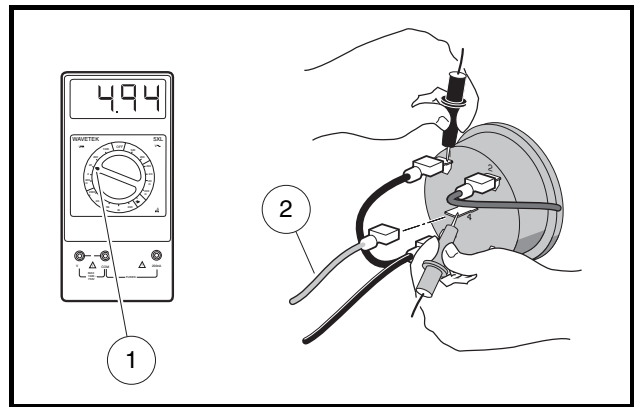

Figure 12-34 Fuel Gauge Voltage Test - Terminal 4
8. The orange wire should remain disconnected for this step. Place the black probe of the multimeter on the (1) terminal of the fuel gauge/hour meter and place the red (+) probe on the (4) terminal of the fuel gauge/hour meter (**Figure 12-34, Page 12-33**). The voltage reading should be approximately 4.94 volts. If the reading is incorrect, replace the fuel gauge/hour meter.